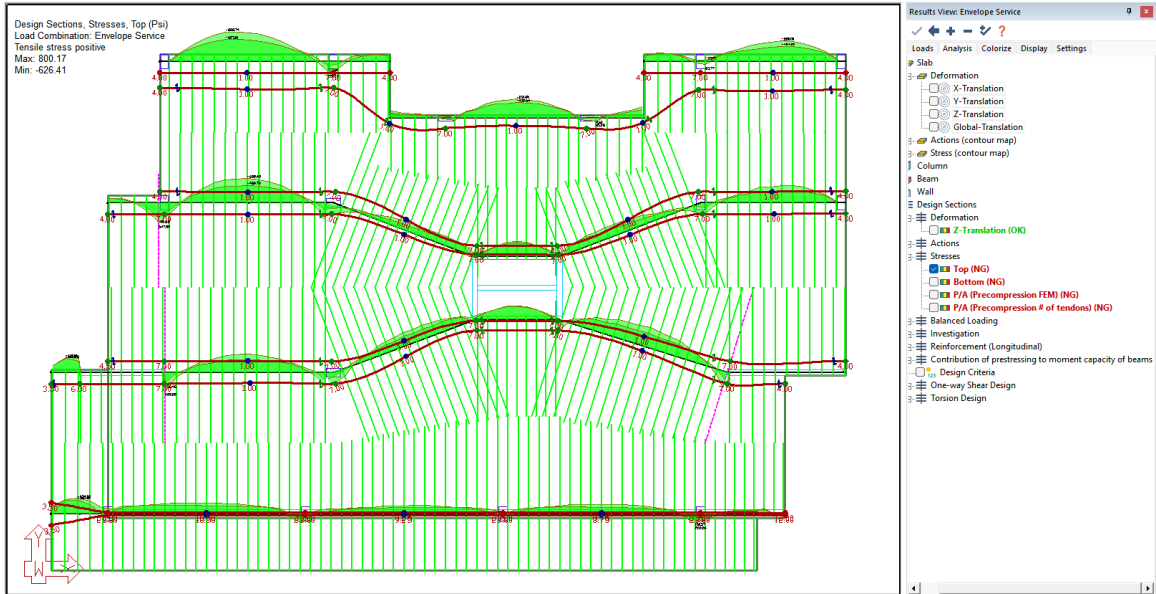

FIGURE 9-97
- The user's screen should look like **FIGURE 9-97**.